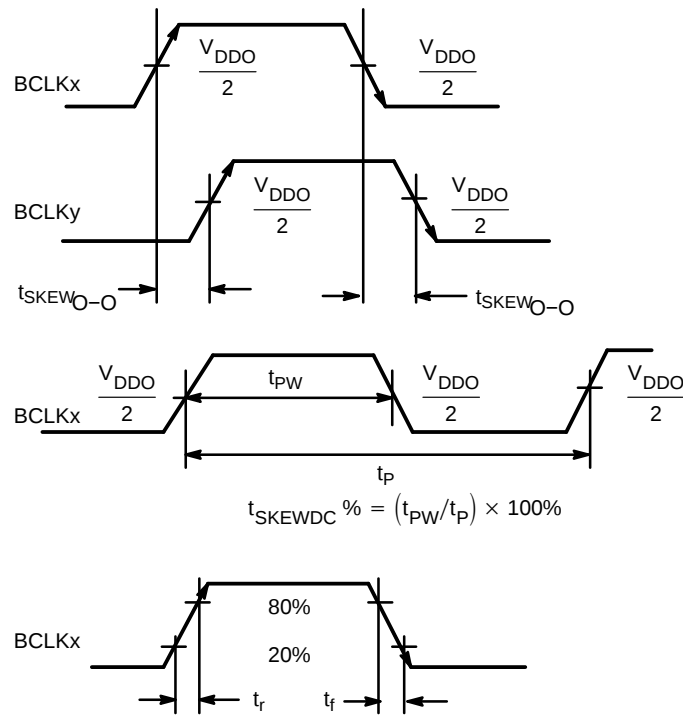

Figure 4. AC Reference Measurement
5. Crystal inputs $\leq F_{\max}$. Outputs loaded with 50Ω to $V_{DDO}/2$. CLOCK (LVCMOS levels at XTAL1 input) 50% duty cycle. See Figures 4 and 7. See APPLICATION INFORMATION; Crystal Input Interface for CL loading.
5. Crystal inputs ≤ F_{max}. Outputs loaded with 50 Ω to V_{DDO}/2. CLOCK (LVCMOS levels at XTAL1 input) 50% duty cycle. See Figures 4 and 7. See APPLICATION INFORMATION; Crystal Input Interface for CL loading.